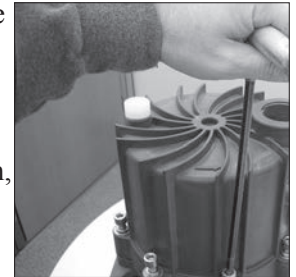

Figure 13
- Place pump on bench with housing (item 1) facing up. Using an 8 mm hex (Allen) wrench, remove (8) 10 mm socket head cap screws, lock washers and flat washers (items 16, 17, 18). See figure 13.